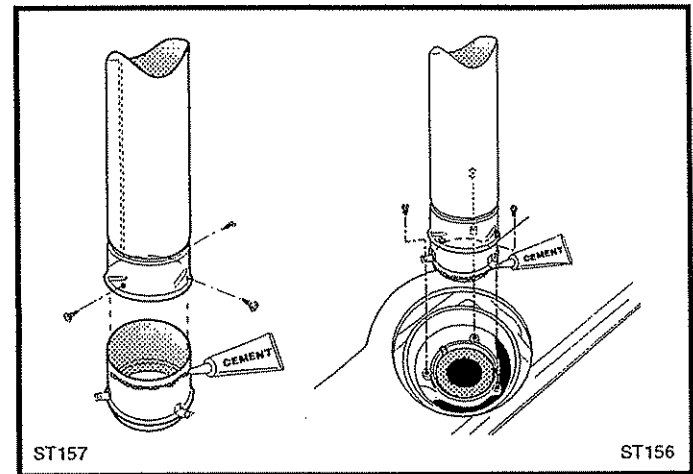

Fig. 25 Connect the Inner Starter Pipe with the next section of CFM inner pipe, then connect assembly to flue collar.
CFM pipe: Run a bead of sealant 1/2" from the upper end of the Inner Starter and join it with the next section of inner vent pipe. Secure with three sheet metal screws. (Fig. 25)
- Run a bead of sealant around the bottom end of the Inner assembly and attach it to the flue collar using three 1/4-20x 3/8" phillips screws provided in the hardware bag. (Fig. 25)